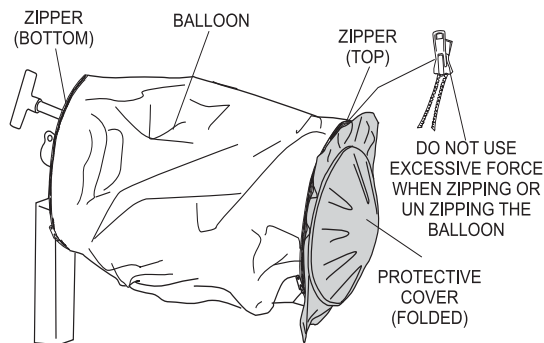
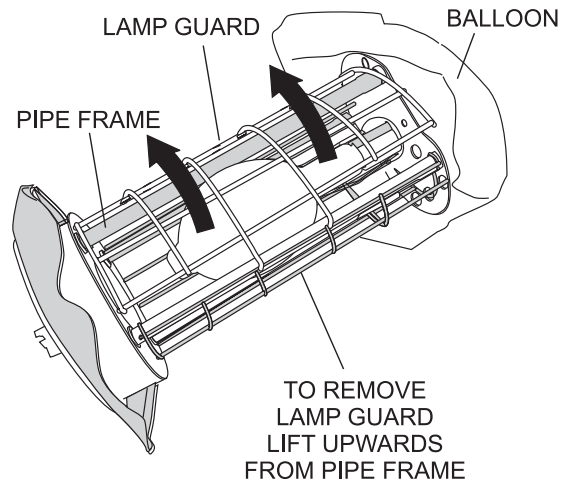

Figure 23. Exposing the Balloon
Figure 24. Removing the Lamp Guard
1. Expose the balloon (Figure 23) by pulling down on the velcro tabs and unzip the protective cover as shown in Figure 19. Next, fold the protective cover into itself and zip.
2. Unzip the zipper (Figure 23) at the bottom of the balloon and roll the balloon envelope upwards to expose the lamp (Figure 24). Remove the lamp guard to gain access to the lamp. **DO NOT** use excessive force when unzipping the balloon.
2. Zip up the zipper at the bottom (Figure 24) of the balloon and pull down the balloon envelope to cover the lamp